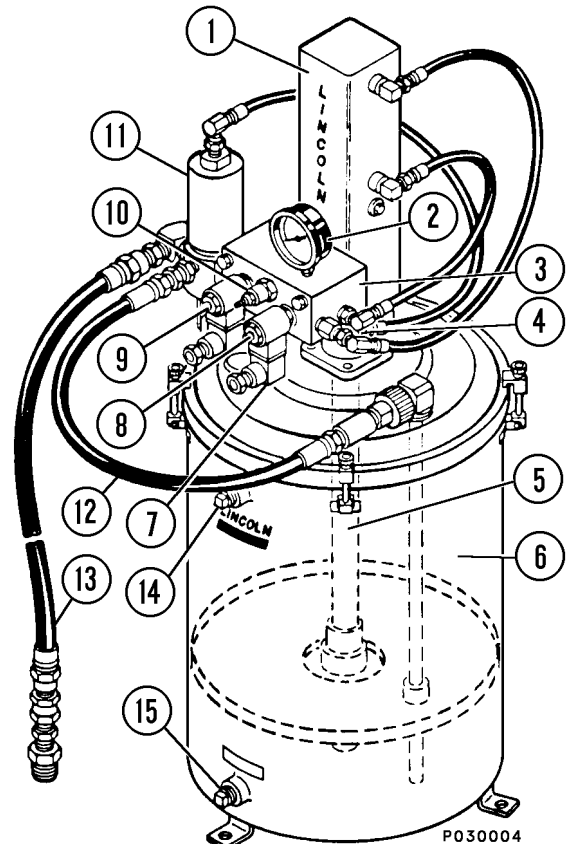

FIGURE 4-5. TYPICAL AUTO LUBE SYSTEM
1. Hydraulically Powered Reciprocating Cylinder and Pump (1 & 5, Figure 4-5).
2. Combination Valve Body (3, Figure 4-5) includes:
3. Pump Cycle Timer (7, Figure 4-5) [also called a "Flasher" timer, because it contains an LED that illuminates when there is power going to SV2]: The Pump Cycle Timer mounts on SV2 solenoid and generates a timed pulse signal which causes the solenoid valve to move, alternately. The alternating movement of the valve, changes the direction of hydraulic fluid flow from the top of the pump cylinder to the bottom, and vice versa, causing the grease pump piston to reciprocate, or "pump".
4. Grease Reservoir: For the HD1500-5, the Canister or Reservoir (6, Figure 4-5) is mounted on the right deck structure to the right of the hydraulic cabinet just above the right front suspension. The reservoir has an approximate capacity of 7.7 gal. or 60 lbs. (27 kg) of grease.
5. Vent Valve (11, Figure 4-5): When SV1 solenoid is energized, hydraulic pressure closes the Vent Valve, and also causes the pump to cycle. The pump cycles until SV1 solenoid is de-energized. When this occurs, hydraulic pressure is removed, causing the Vent Valve to open. The grease pressure drops to 0, and the injectors recharge for their next output cycle.
8. Safety Unloader Relief Valve (Not Shown); is located on the back of the vent valve (11, Figure 4-5). The Safety Unloader Relief Valve is designed to open if the pressure in the grease line rises to approximately 4000 PSI (27.5 MPa)*. If this valve opens, the grease is expelled to atmosphere.
1. Turn Keyswitch (3, Figure 4-11) "Off" and shut down engine to de-energize system. Install a 5000 PSI (35 MPa) pressure test gauge in the grease supply line (13, Figure 4-5).